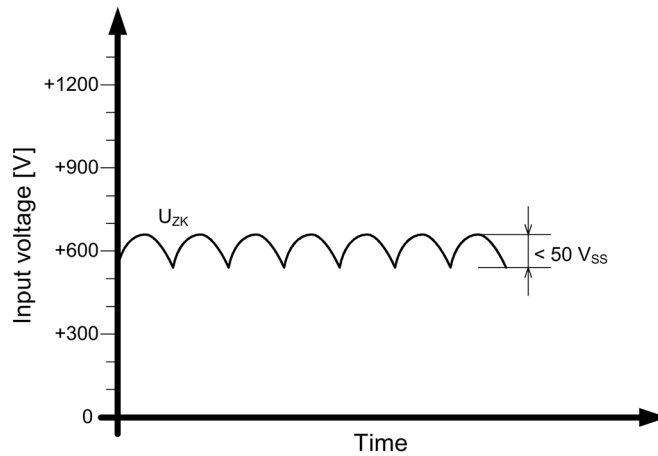
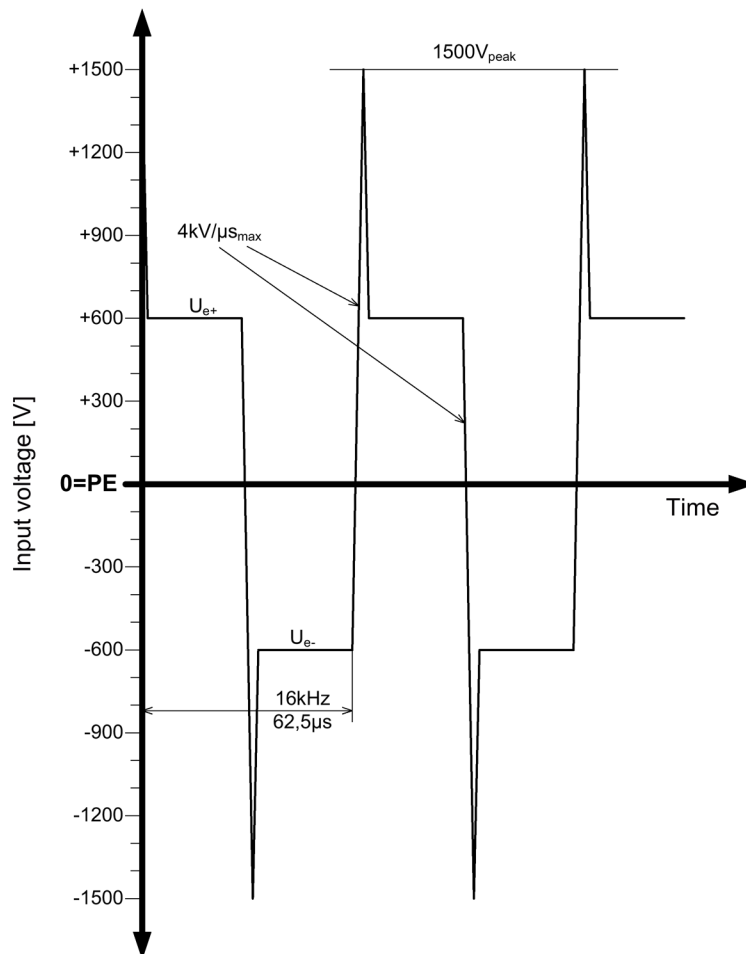

Figure 6-3 Input voltage ripple
Figure 6-4 Voltage rate of rise
• Remark	Product version 1: Starting from approx. 400 V; derating at 200 ... 300 V and 820 ... 900 V necessary, see Figure 6-1 Derating input range for product version 1 (Page 28) From product version 2: Starting from 340 V, derating at 300 ... 400 V and 824 ... 900 V required, (see Figure 6-2 Derating input range from product version 2 (Page 29), Figure 6-3 Input voltage ripple (Page 29) Figure 6-4 Voltage rate of rise (Page 30)